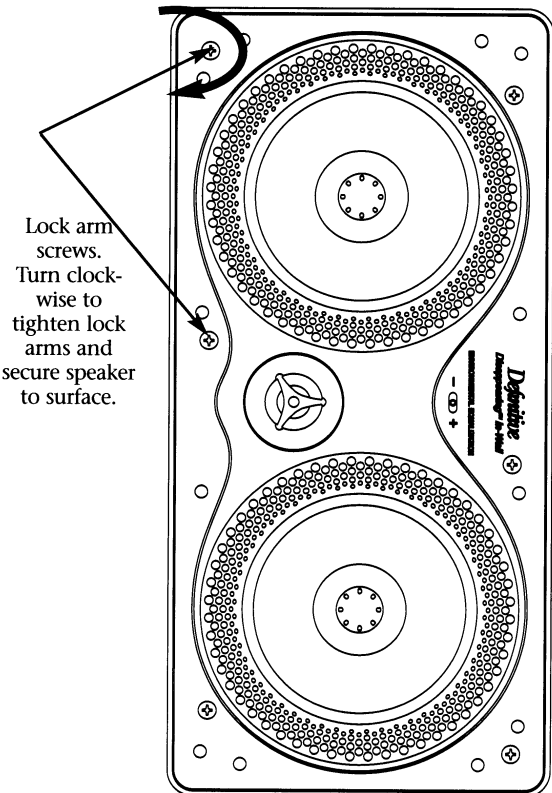
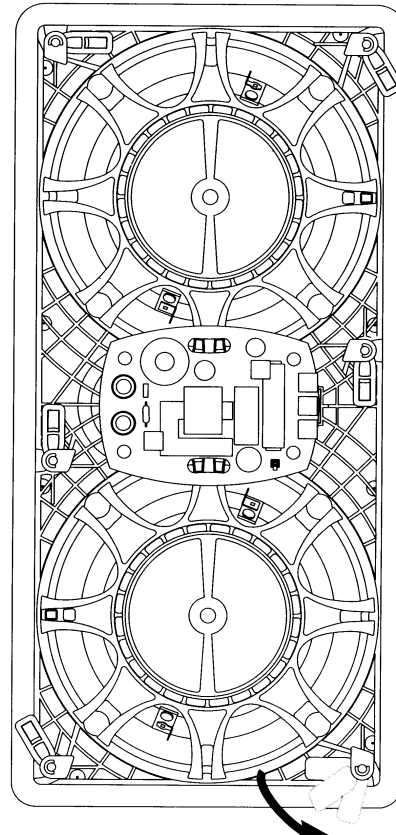

Figure 10
Figure 11
- Place the speaker carefully into the cutout. If you have a bubble level, use it to help you correctly align the speaker. Tighten the lock arm screws with a screwdriver [Figure 10]. This will rotate the lock arms [Figure 11] and secure the speaker to the wall/ceiling. Do not over-tighten the lock arm screws. If you are using a powered screwdriver or drill set the torque to a value of 7 in. – lb. (8dN – m).